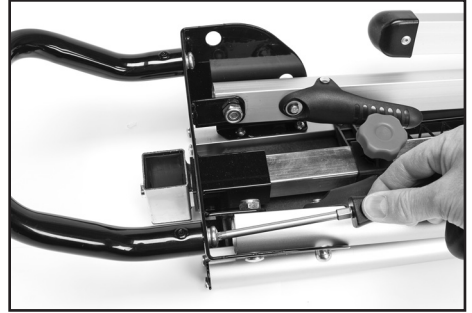

FIG.2
- Align the holes in the handle (10) with the holes located at the end of the body of the mitre saw, as shown in Fig.2.